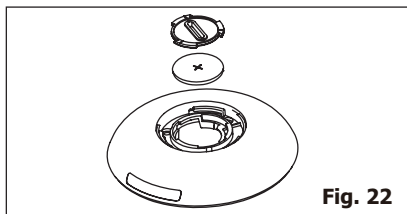

Fig. 22
- 3.** Use the same way to open the protecting cover inside and take out the battery. (Fig. 22)